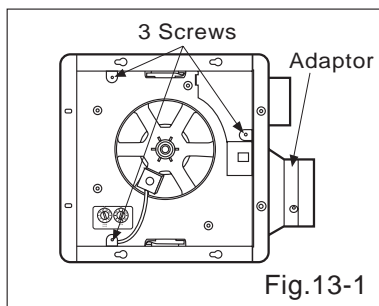

Fig.13-1
1. Loosen 3 screws (but do not remove them from blower). (Fig.13-1)